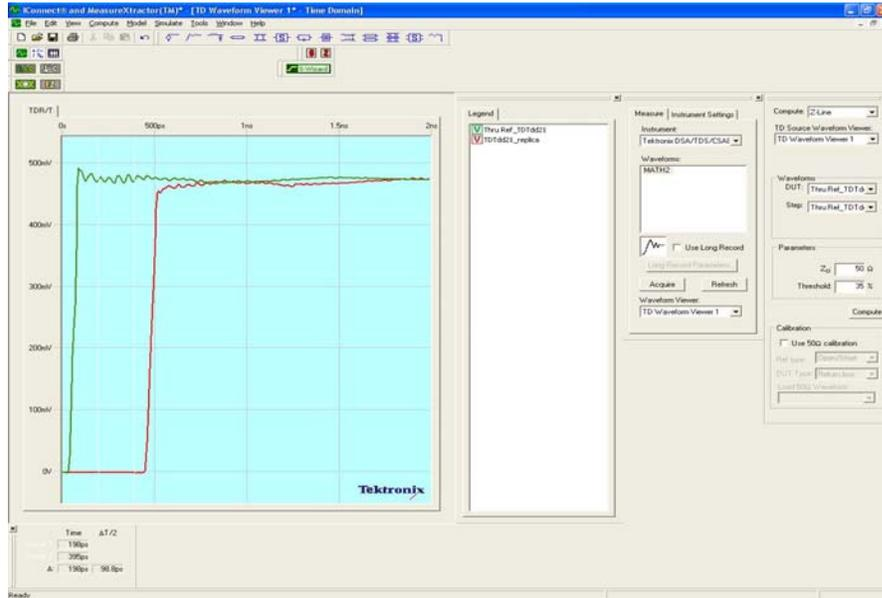

Figure8
- d. In the legend window double click on the waveform name and re-name the waveform to TDTdd21_replica. (This name can be substituted with any name the user prefers, see Figure 8)